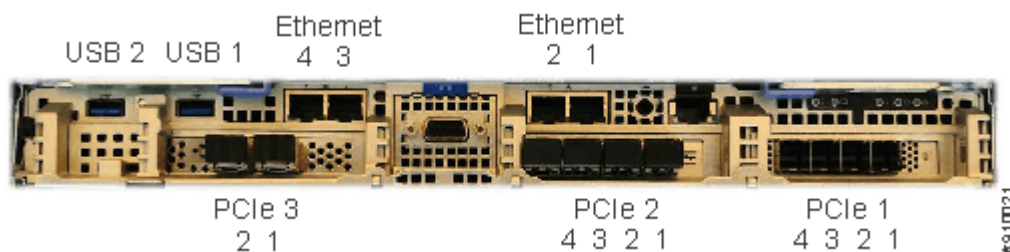
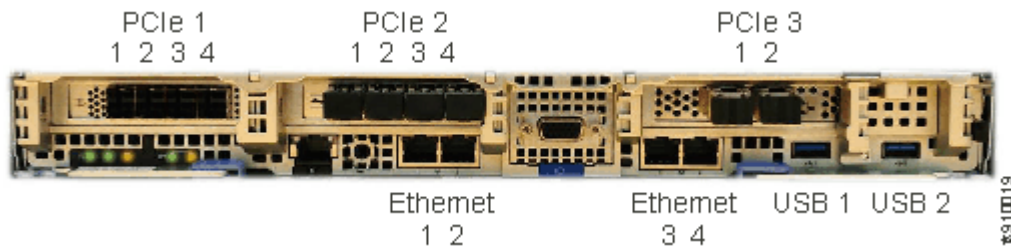

Figure 55. Ethernet ports on canister 1 (upper canister)
Figure 56. Ethernet ports on canister 2 (lower canister)
1. Connect Ethernet port 1 of each node canister in the system to the IP network that provides connection to the system management interfaces, as shown in Figure 55 on page 94 and Figure 56 on page 95.